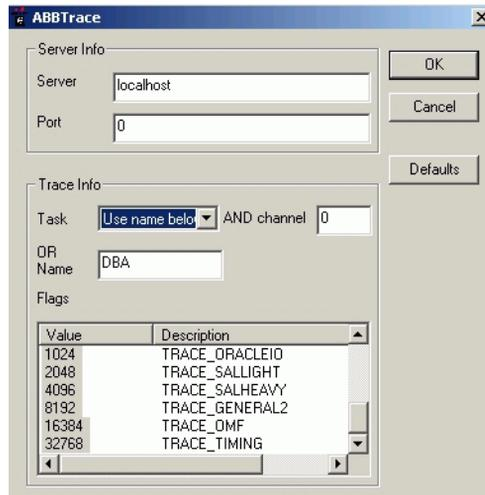

Figure 88. Trace Settings Dialog
4. Use this dialog to set up the Trace Monitor (reference Figure 88):